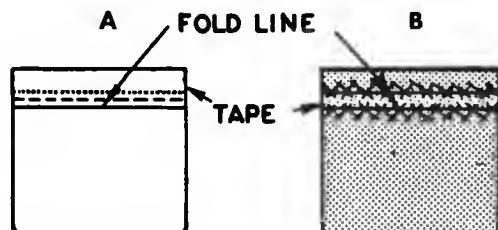

Fig. 145. Applying the stay.
- A. Tape the lower edge of the hem on the wrong side, just above the foldline with preshrunk tape to prevent stretching. Machine-stitch in place (Fig. 145, a); or
- B. Tape the upper edge of the patch pocket by placing the upper edge of the tape against the foldline of hem. Catch-stitch both edges lightly to the pocket (Fig. 145, b).